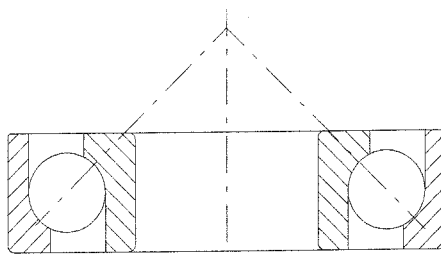

Figure 9.1
- 2) Preassemble the parts from (06.030.0) to (06.080.0) on the vertical shaft (06.070.0). The thrust ball bearing (06.030.0) must be set as shown in figure 9.1.